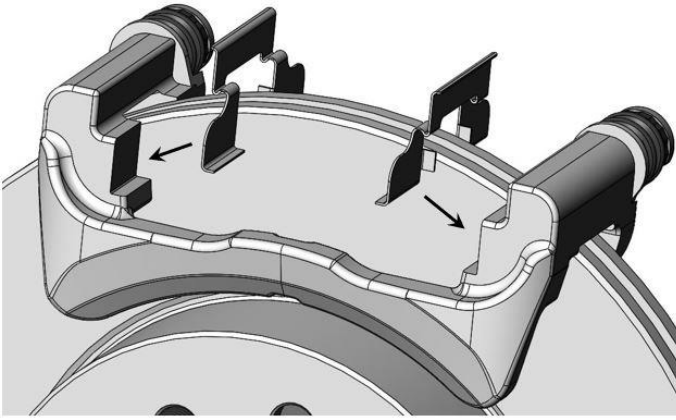
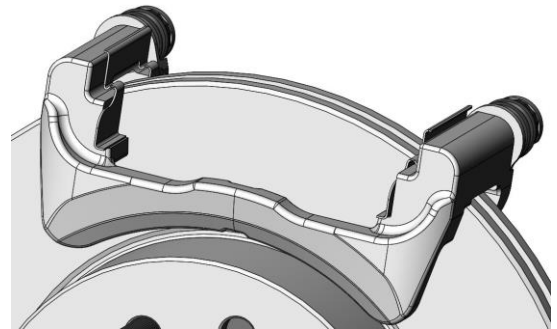

Figure 7a– Abutment Clips Installation
Figure 7b – Abutment Clips Installed
10. Place the Stainless Steel Abutment Clips into the Caliper Anchor Bracket at this time. Refer to Figure 7a and Figure 7b below for installation reference.